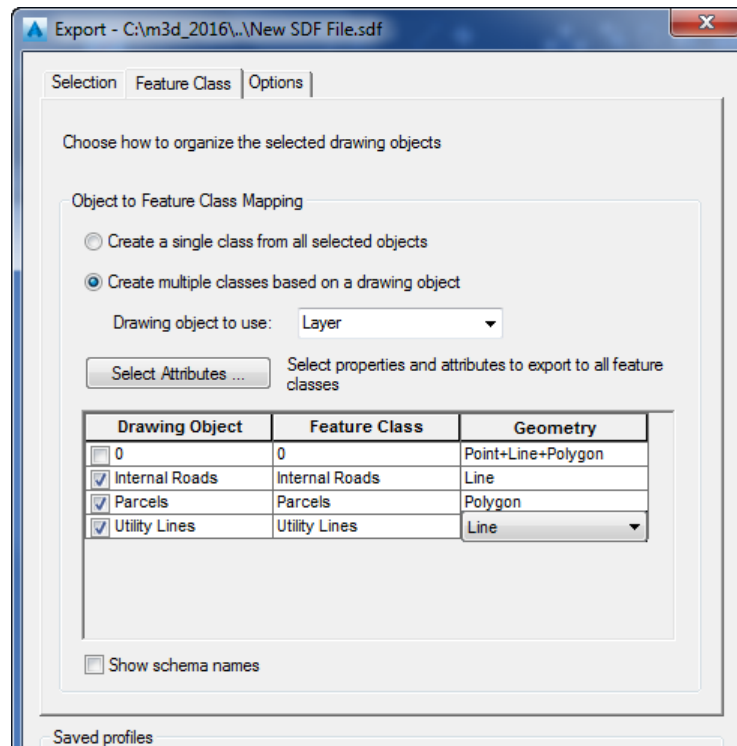

Figure 2-37 Partial view of the **Export** dialog box showing the **Geometry** option selected for the drawing object
11. Repeat the procedure given in steps 9 and 10 and select the **Polygon** and **Line** geometry options for the **Parcels** and **Utility Lines** drawing objects respectively, refer to Figure 2-37.